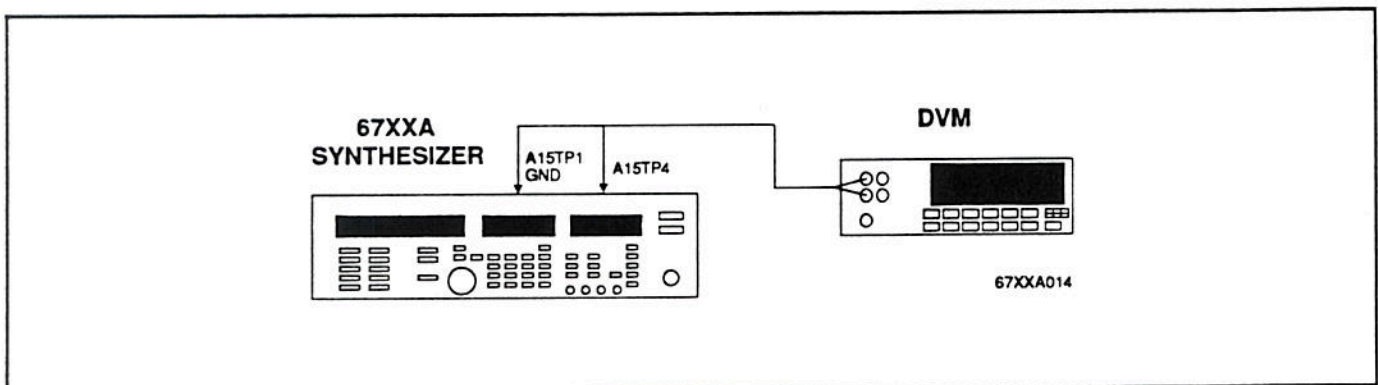

Figure 3-7. External Leveling Offset Adjustment Test Setup
a. Test Setup. Connect the equipment as shown in Figure 3-7, and turn the equipment on.